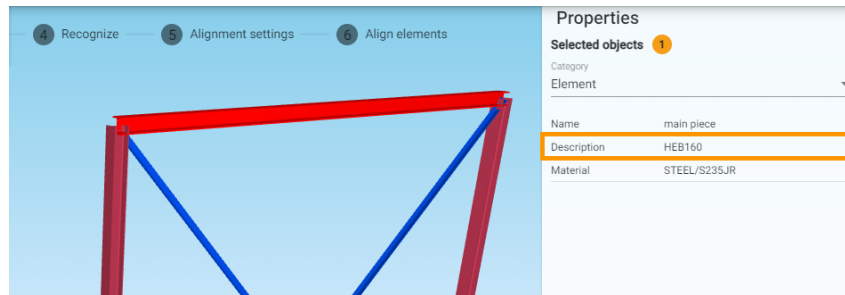

Figure 17: Finding right attribute for CSS mapping
1. Find the attribute that is containing the cross section name like e.g. HE200A: Inspect elements in your structural model and find a property that contains data about cross-sections. (Figure 17)